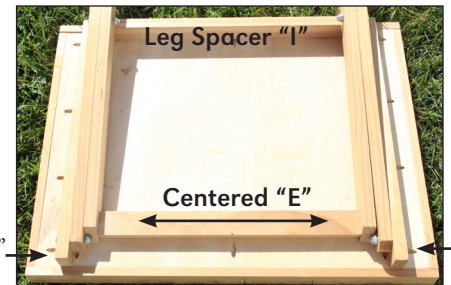

Figure 2
- 2) Cut table bottom runners "D" to length. Drill hole for pivot bolts at one end of runners "H" centered $\frac{3}{4}$ " from the end. Attach runners with wood glue and brad nails to bottom of table top 2" from edge of trim (or $1\frac{1}{2}$ " from edge of "A") as shown in Fig. 2. Insure holes for pivot bolts are at the same end and runners are square.
- 3) Cut table bottom brace "E" to length. Attach with wood glue and brad nails to bottom of table top, opposite of pivot bolt holes in "D." Brace should be centered between the runners "D." See Fig. 2.
- 6) Assemble pivot legs "F" to table top completed in step 3 with pivot bolt. Bolt brace legs "G" to "F" in center hole. Attach leg spacer "I" with wood glue and nails to brace legs "G" at end between legs. Add second brace leg spacer "I" between brace legs "G" at edge of table top "A" as seen in Fig. 2.